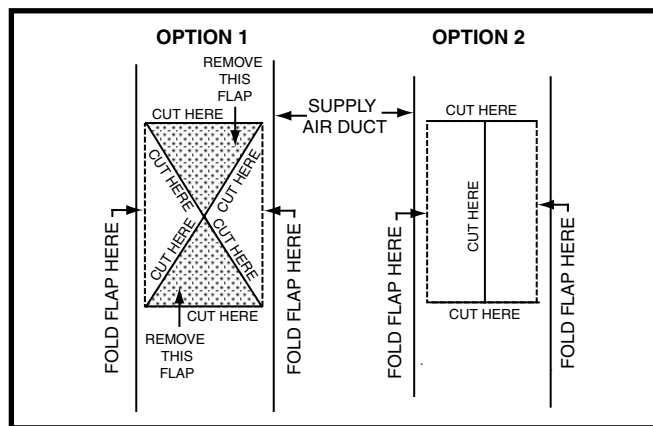

Figure 10. Narrow Air Duct Openings
- Score and cut the top of the supply air duct as indicated in Option 1 or Option 2 (Figure 10). With Option 1 choice, cut out the metal from the shaded area.